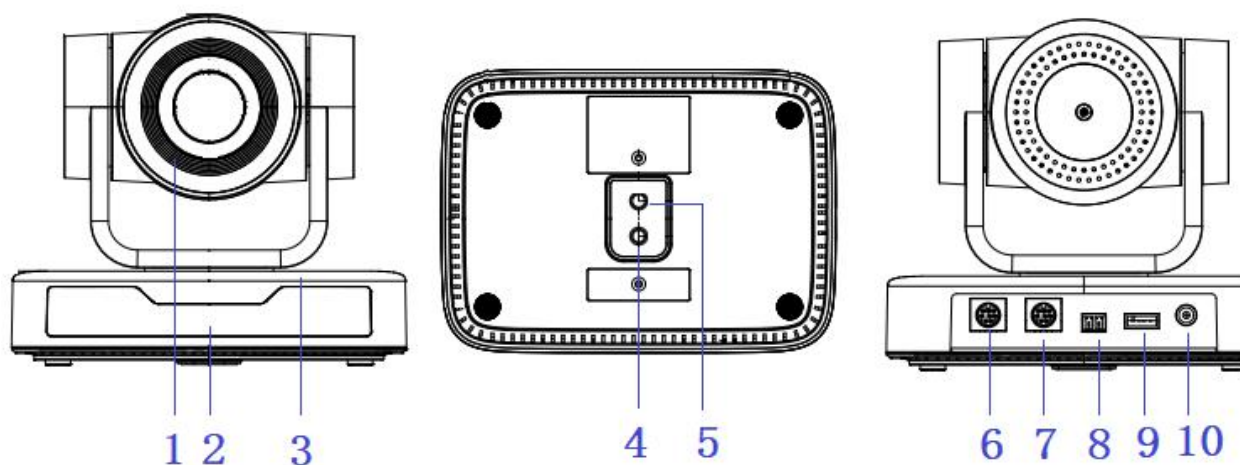

Figure 1.1 Product Interfaces
- USB 2.0 video cable connection: as shown in Figure1.1 label 9